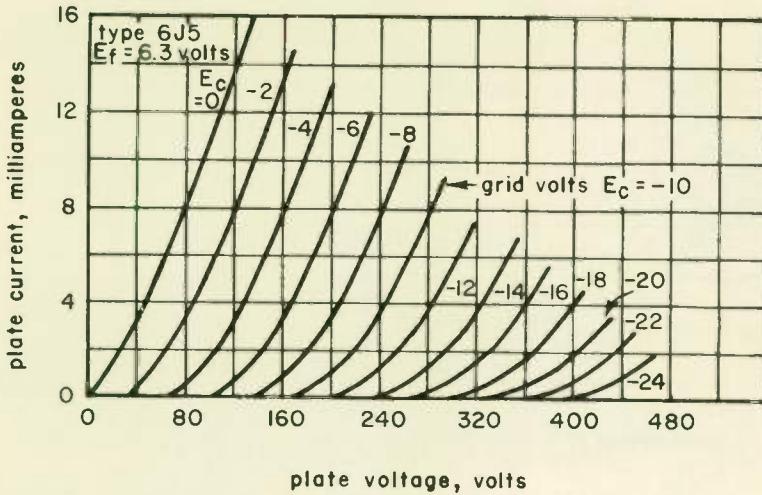

Fig. 8.
1. Illustrated in Fig. 8 are the average plate characteristics of a type 6J5 triode. With a grid bias voltage E_c of -4 volts and a plate voltage E_b of 160 volts, what is the value of plate current?